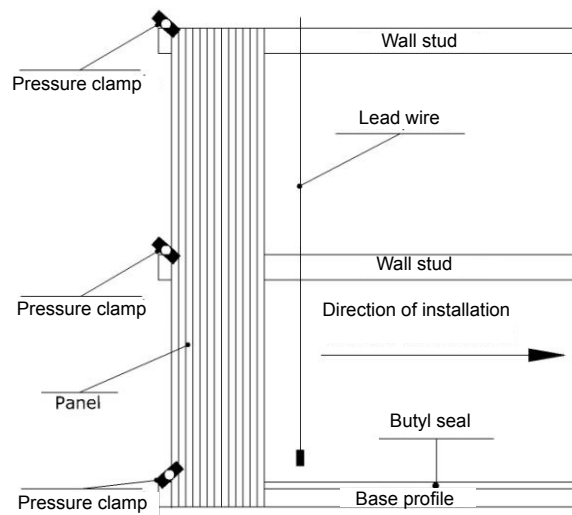

Fig. 5
4.3.6 Position the first panel with the plumb line, check its verticality, after what has been provisionally supported to the structure by means of pressure pliers. (Fig. 5)